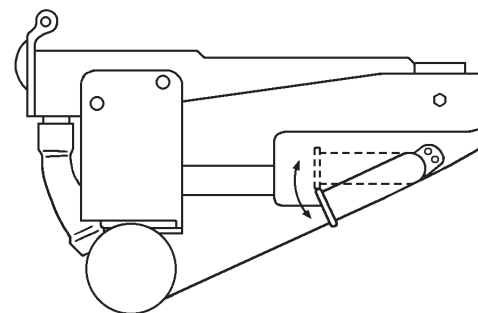

Fig. 1
- 4) Move the tank drain pipe to the drain position. See Fig. 1.
- 6) Remove the screw, and move the tank drain pipe to the drain position. See Fig. 1.